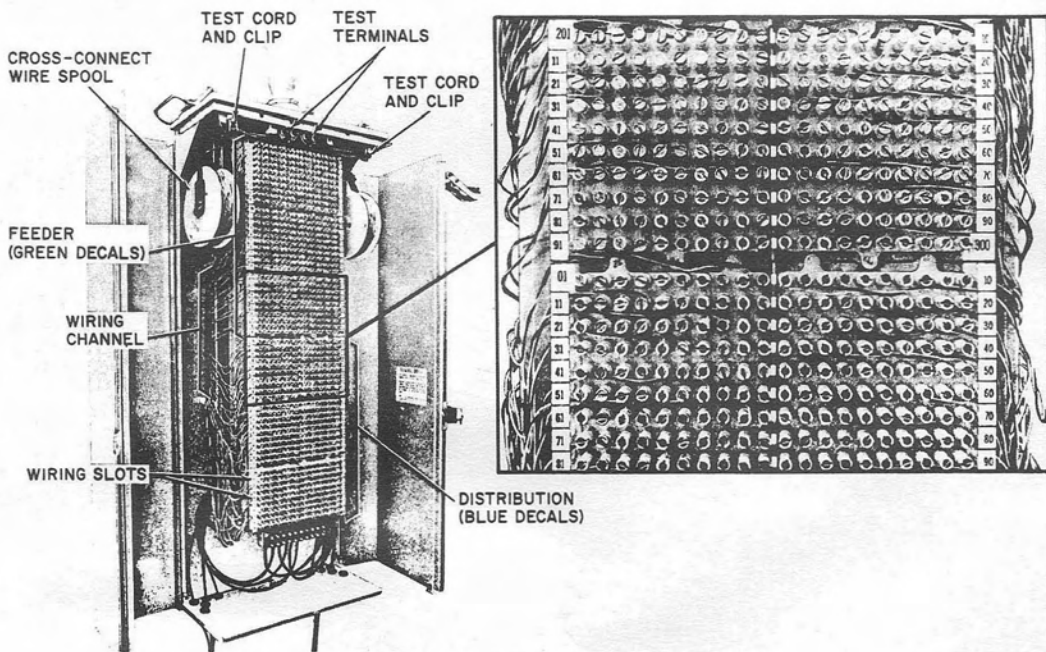

Fig. 1—Running Cross-Connect Wire
2.02 Terminate the cross-connect wire in BK1- and BL1-type cable terminals in accordance with the following procedures (Fig. 1):